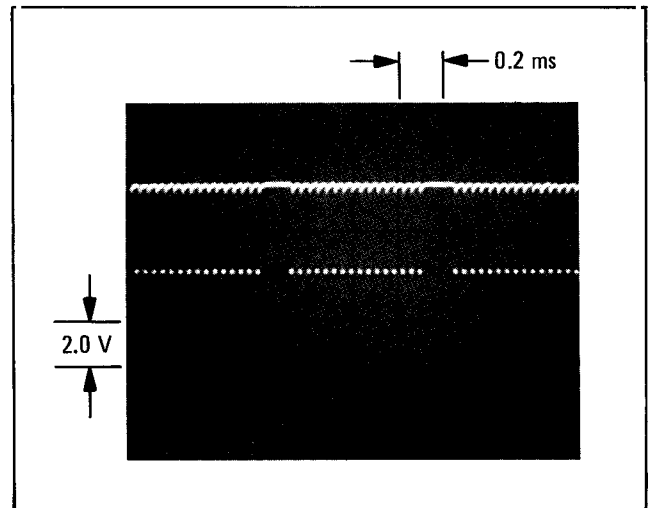
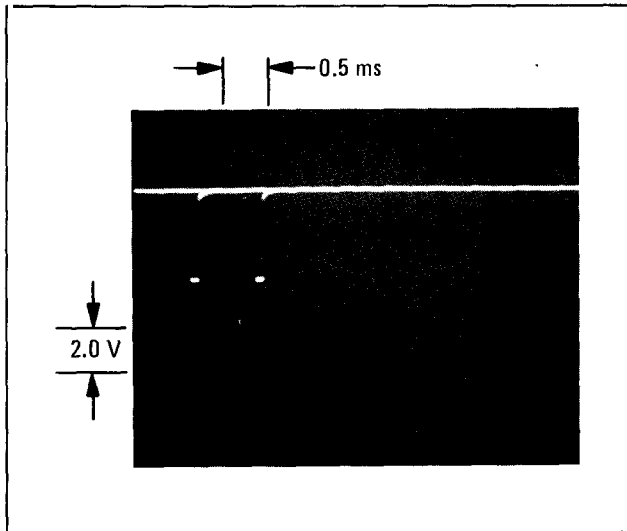

Figure 12. Oscilloscope Display of LF Loop Clock with 3 Data Words and a 10 MHz change at J3-Pin 10 (coupling is dc; triggering is external from J3-Pin 10)
Figure 13. Oscilloscope Display of WSTB (L) at J3-Pin 9 (with dc coupling; external triggering from U21-Pin 13)
2. Set the Signal Generator's output frequency to 500 MHz. Increment the frequency up 10 MHz. Three words are written to the LF Loop. Figure 12 shows that 16 bits are written for each word (only 12 bits are used). Figure 13 shows the write strobe signal WSTB(L).